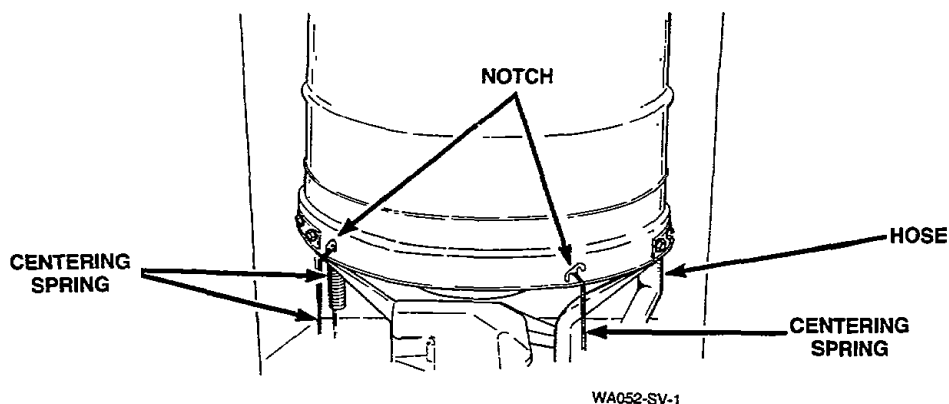

Figure 41
- o. Using No. 229P4 Spring Hook Tool, unhook five centering springs from lower edge of outer tub, *Figure 41*.
- i. Using No. 229P4 Spring Hook Tool, unhook the five centering springs from lower edge of outer tub, *Figure 41*.